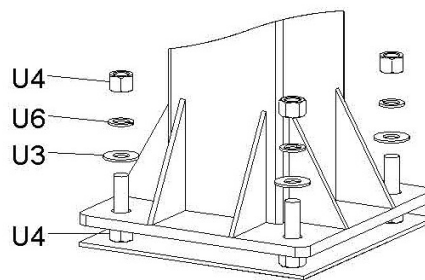
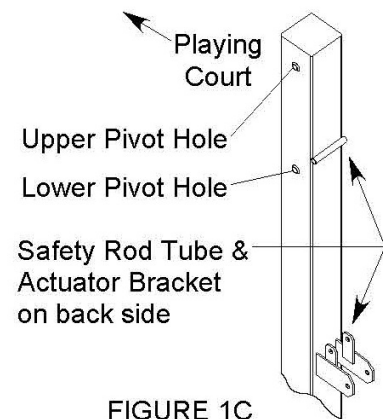

FIGURE 1B
FIGURE 1C
- B. Remove the Padding from Main Post (A). Place the Main Post (A) over the J-Bolts. Slide a Thick Washer (U3), a Lock washer (U6) and thread a Hex Nut (U4) to each J-bolt. Tighten the Nuts only a few turns onto the J-Bolts as shown in FIGURE 1B.
- C. If the Main Post (A) is not exactly vertical, adjust the J-Bolt Hex Nuts (U4) located under the Post base. Tighten all of the Hex Nuts (U4) Above Post base when Main Post (A) is vertical.
NOTE: Face the Main Post (A) with Actuator Bracket facing away from playing court (as shown in FIGURE 1C).